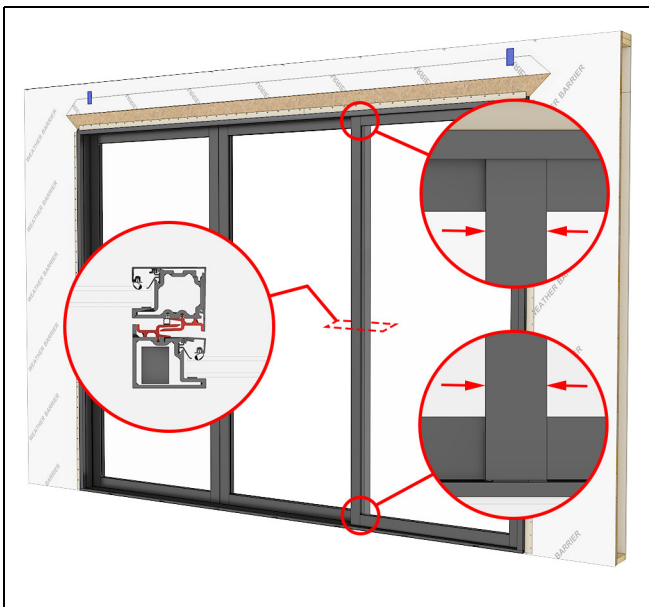

Figure 103
10. Close and lock the operator panel. Check to ensure proper interlock engagement and reveal. Adjust panel rollers as needed. See Figure 103.